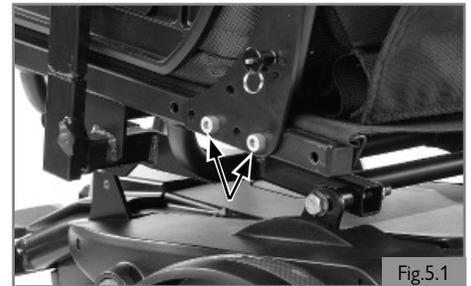

Fig.5.1
1. Remove the two bolts on the backrest brackets, one for each side of the frame, using a 6mm Allen key and 13.0mm spanner. (Fig. 5.1)